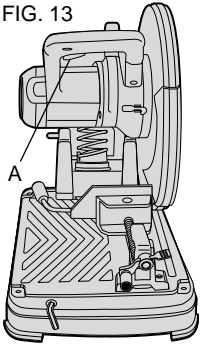

FIG. 14
### Procedure For Permanent Mounting (Fig. 14)
1. Drill four holes 5/16" through the work surface. (Figure 14)